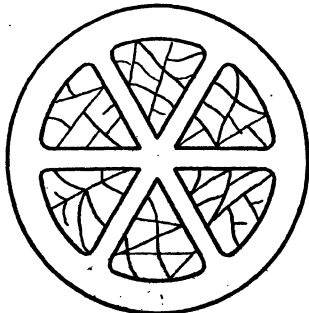

FIG. 30. SECTORS OF STAINED GLASS WINDOW
3. The design for a stained glass window includes sectors of circles. If the angle of a sector is 60° and the length of the straight sides is 6 ft., find the area of glass in the six sectors, Fig. 30.